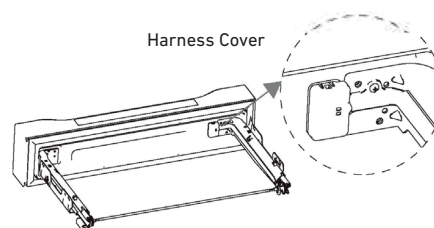

Figure 5
5) Remove the harness cover with a screwdriver or other appropriate tool. See Figure 5.